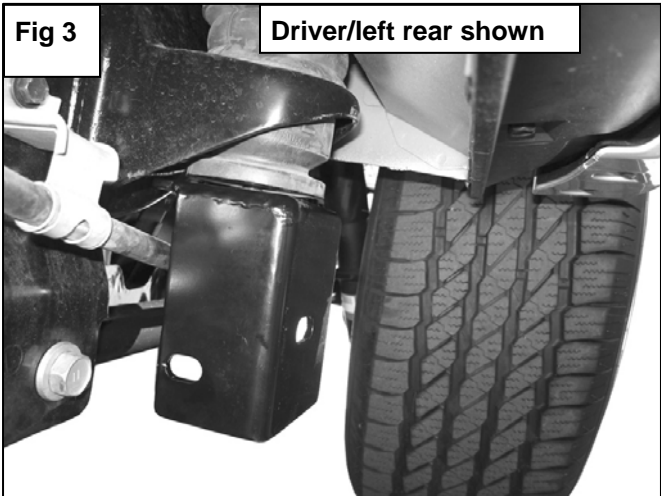

Fig 4
4. Locate the two factory thread holes in the inner rocker panel by the rear body mount and attach the driver side brace bracket to these factory holes using the included (2) 8mm x 25mm Hex Bolts (2) 8mm Flat washers (2) 8mm Lock washers. Attach opposite side of rear brace bracket to the rear mounting bracket using the (1) 10mm x 25mm Hex Bolt (2) 10mm Flat washers (1) 10mm Lock washer and (1) 10mm Hex nut (**Fig 4**) Snug but do not tighten hardware.